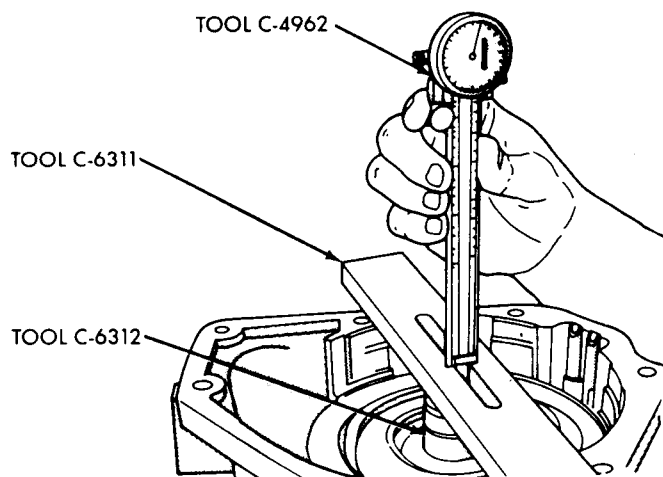

Fig. 7—Measure for Intermediate Shaft Spacer
(9) Position overdrive unit vertically in a large vise. To determine the proper intermediate shaft spacer thickness, insert Tool C-6312 through the sun gear. Be sure tool bottoms against carrier spline shoulder. Position Tool C-6311 across overdrive case face. Using dial caliper Tool C-4962, positioned over Tool C-6311, measure distance to the top of Tool C-6312 (Fig. 7).
(10) Using this measurement, select the proper thickness spacer from the chart below: